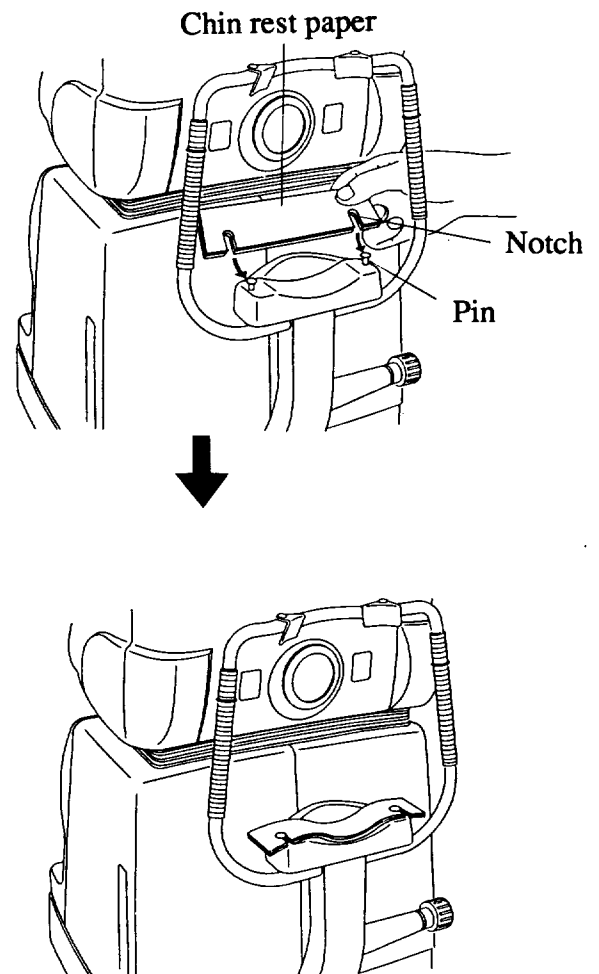

Figure 2-11
- (3) Clean the forehead rest and chin rest with alcohol.
- (4) To install the chin rest paper, raise the two pins on the chin rest and push the paper towards the pins while the notches are aligned (with the pins) then lower the pins onto the top of the chin rest paper to secure it (see Figure 2-11).